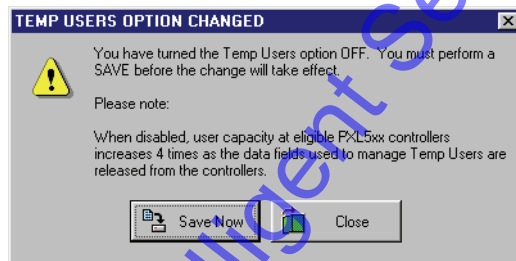

Figure 2-32: Temp Users Option Changed - OFF
1. To disable the Temp Users feature, click in the Temp Users ON check box. The check mark that was there disappears and the following window appears (see Figure 2-32).